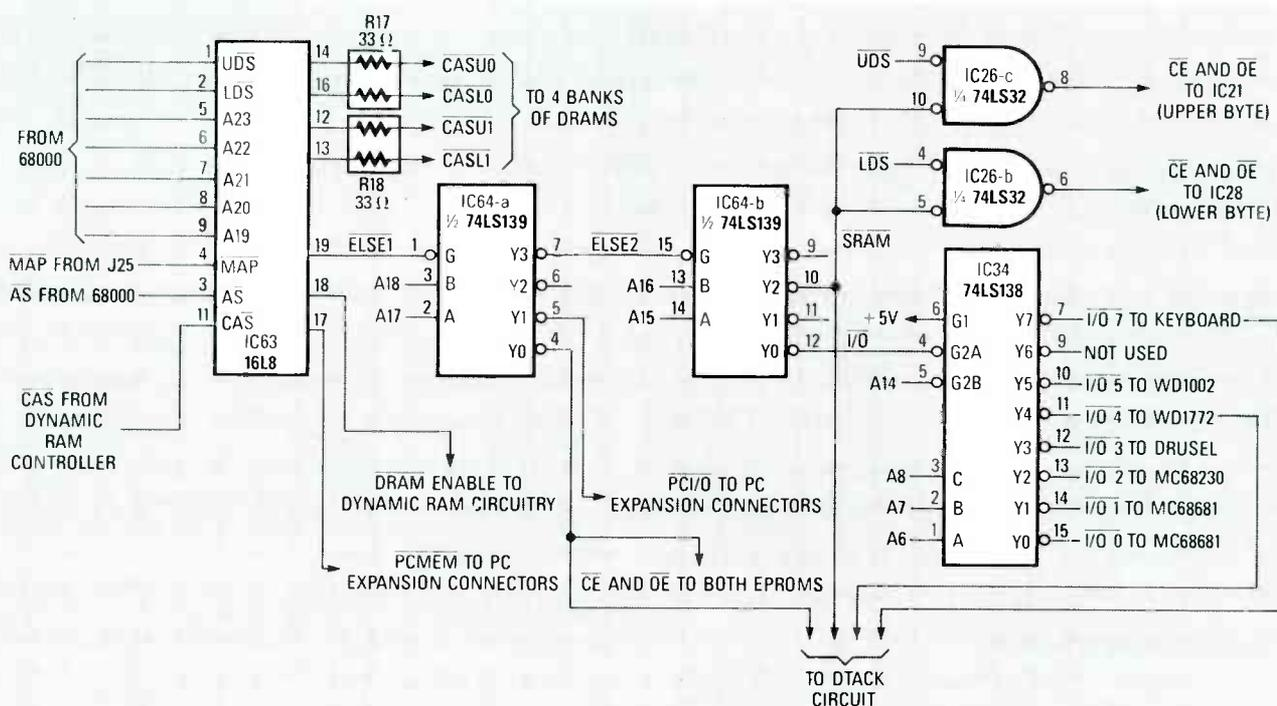

FIG. 3—ALL ADDRESS DECODING is accomplished by three IC's: each IC (or section thereof) further narrows the range of addresses decoded by its predecessor.
As described way back in the first part of this series, the address decoder continuously monitors the high order bits of the address bus and signals the RAM, the ROM, and the I/O interfaces whenever an address comes along that is intended for them. The PT-68K's address decoder consists of three IC's, as shown in Fig. 3.
2. If A16 and A15 are 10, which occurs for addresses \$FF0000–\$FF7FFF, IC64-b asserts \overline{SRAM} , which drives the static RAM and the clock/calendar via IC26-b and IC26-c. (The RAM circuit was shown in Fig. 3 in the December installment.) Note that \overline{UDS} and \overline{LDS} are combined with \overline{SRAM} to enable the upper byte (IC21), the lower byte (IC28), or both. For example, when both \overline{UDS} and \overline{SRAM} are asserted, the \overline{CE} and \overline{OE} pins of IC21 will be asserted, and the IC will be enabled.
- The parts-placement diagram (Fig. 3 in the November installment) was printed upside down, so references in the text will be rotated 180° from the true position. However, all locations on the board are labeled correctly.